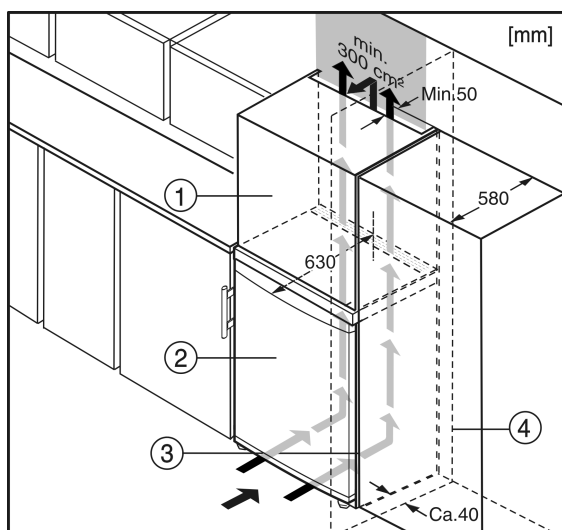

Fig. 5
The appliance can be inserted into a row of kitchen units. To match the appliance Fig. 5 (2) to the height of the row of units, a suitable stack cabinet Fig. 5 (1) can be fitted above the appliance.
When inserting the appliance into a row of kitchen units (max. depth 580 mm), the appliance can be installed directly next to the kitchen unit Fig. 5 (3). The appliance door projects relative to the front of the kitchen unit by 34 mm at the side and by 50 mm in the middle of the appliance. It can be opened and closed perfectly as a result.
If the appliance is installed with the hinges next to a wall Fig. 5 (4), the distance between appliance and wall has to be at least 40 mm. This corresponds to the projection of the handle when the door is open.